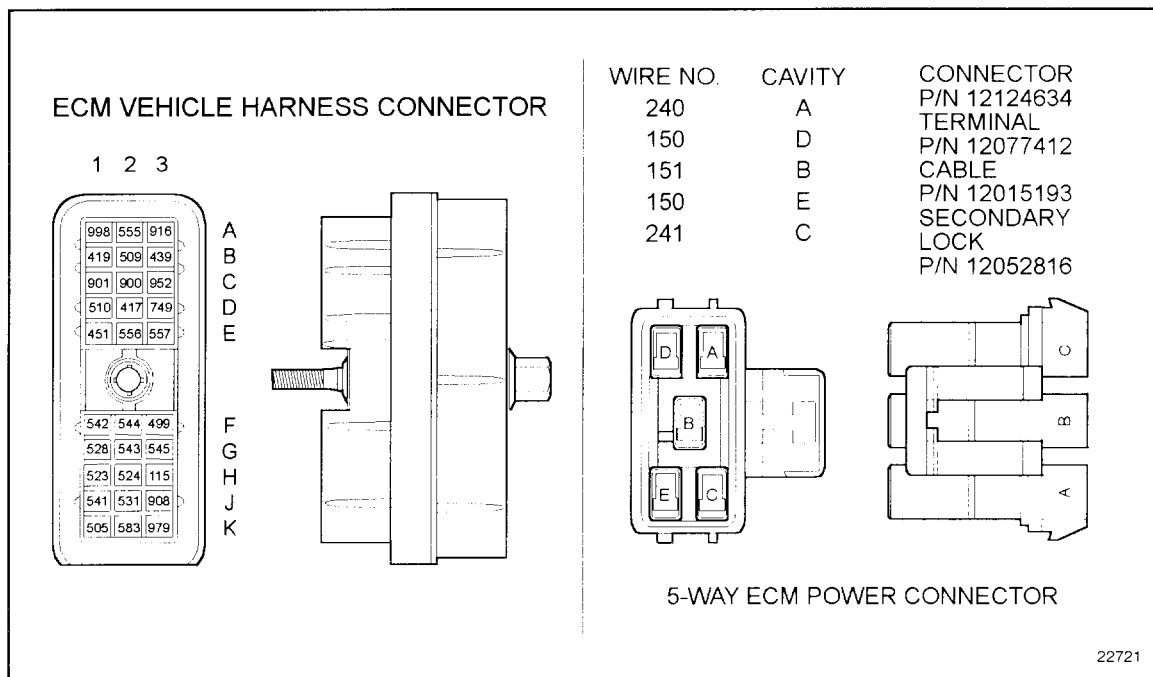

Figure 86-2 ECM Vehicle Harness Connector
2. Disconnect the vehicle harness connector at the ECM. See Figure 86-2.